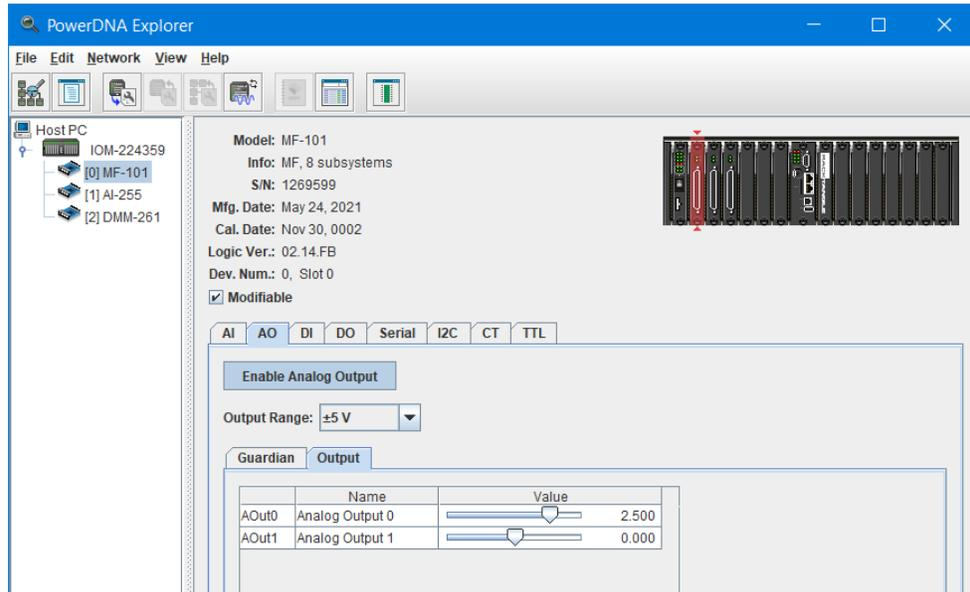

Figure 5-6 Power DNA Explorer AO Tab, Output Subtab
5.6.4.1 Write AO Data The AO Output subtab (**Figure 5-6**) contains the following: